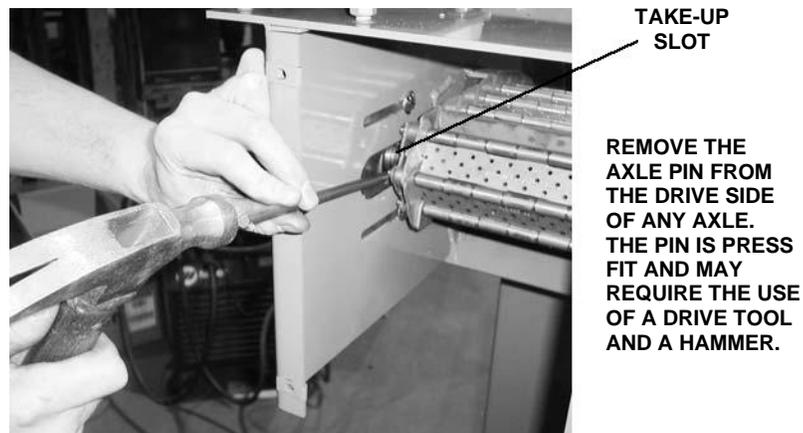

Figure 14: Removing the axle pin
1. Carefully jog the conveyor until an axle is accessible through the take-up slots. See Figure 14.
8. Remove an axle pin from the drive side of the axle aligned with the take-up slot (Figure 14). Because the axle pins are press fit, it will be necessary to use a hammer and drive pin to remove the axle pin.
9. Remove an axle pin from the drive side of any axle (Figure 14). Because the axle pins are press fit, it may be necessary to use a hammer and drive pin to remove the axle pin.